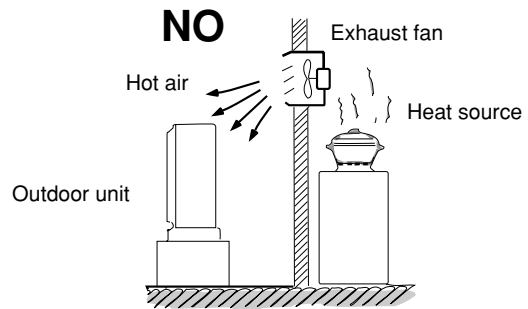

Fig. 5a
- heat sources, exhaust fans, etc. (Fig. 5a)